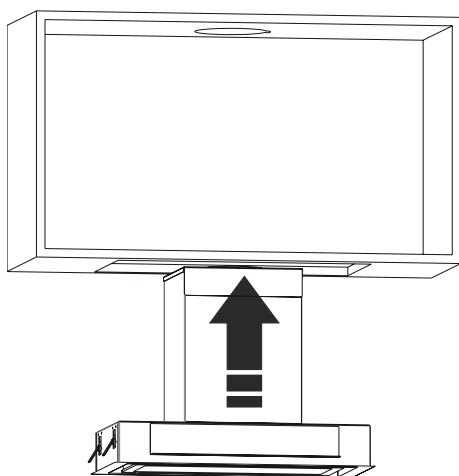

Fig. 16
4. ➔ Place the hood in the direction of the arrow in the area you prepared earlier.(Fig. 16).